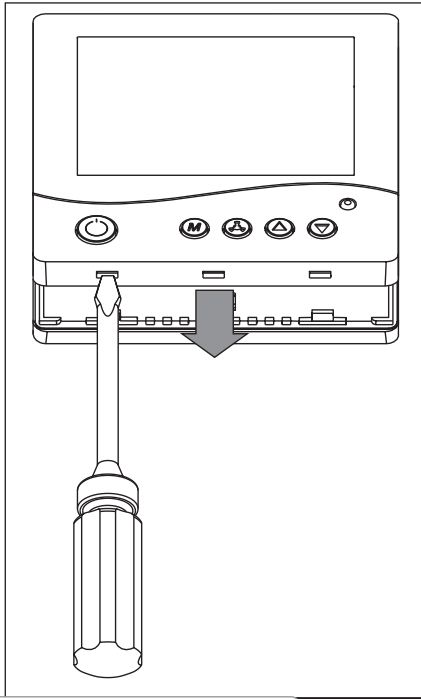

Fig. 4. Rear wall separation
- Carefully release the latches with a flat screwdriver by inserting it into the access holes in the lower part of the wall control panel (Fig. 4).